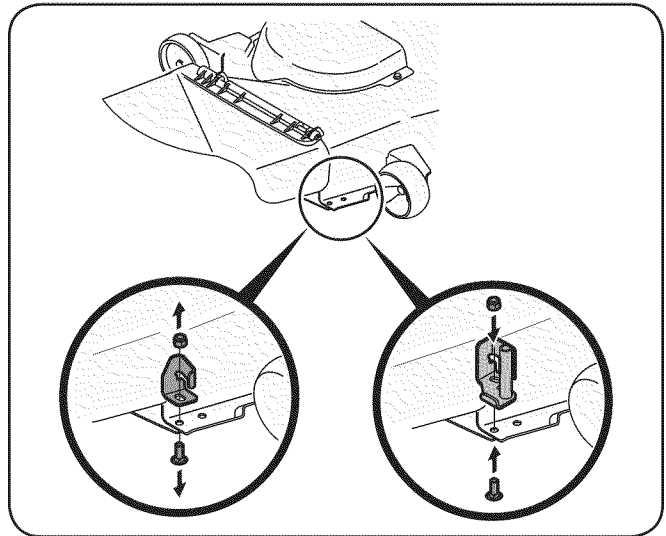

Figure 4-18
- Remove the carriage bolt and lock nut holding the chute stop to the deck. See the left Inset of Fig. 4-18. Save the hardware.
- Replace with new chute stop bracket, from the bagger kit, at the same position on the deck. See the right Inset of Fig. 4-18. Secure with the hardware removed earlier.